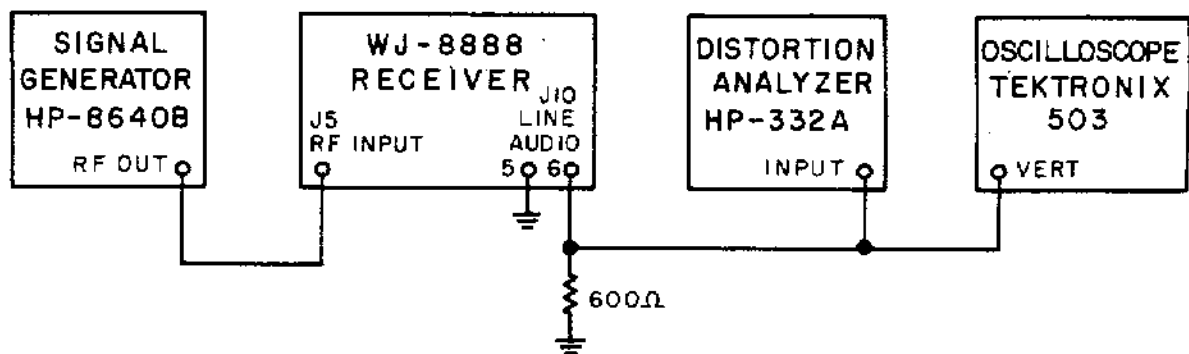

Figure 5-4. Test Setup, Sensitivity Tests
(1) Connect the equipment as shown in Figure 5-4.
(2) Place the receiver in the AM detection mode, the NORM AGC gain mode, and the narrowest available IF bandwidth position. If the narrowest available IF bandwidth position is less than 1.0 kHz, the receiver should be placed in the CW VAR detection mode.
(3) Set the HP-8640B signal generator for a 0.50000 MHz output at the level corresponding to the receiver IF bandwidth in use in Table 5-3. If the IF bandwidth is less than 1.0 kHz, the HP-8640B output should be unmodulated. Otherwise, the output should be modulated 50% at a 400 Hz rate.
(4) Tune the receiver to 0.50000 MHz. If the selected IF bandwidth position is less than 1.0 kHz, adjust the VAR BFO control for a line audio output near 400 Hz.
(5) With the analyzer in the SET LEVEL mode, adjust the distortion analyzer for a reading of 0 dB on the SET LEVEL range.
(1) Connect the equipment as shown in Figure 5-4, deleting the distortion analyzer.
(2) Place the receiver in the USB detection mode and the MAN gain mode. Rotate the RF GAIN control fully clockwise. Tune the receiver to 0.51000 MHz.
(3) Set the signal generator frequency to 0.51035 MHz. The signal generator RF output should be unmodulated at a level of -107 dBm.
(4) Adjust the oscilloscope controls so that the receiver audio output can be plainly seen. Adjust the oscilloscope vertical sensitivity so that the top of the waveform is at a convenient position on the graticule. Note this reference level.
(5) Tune the signal generator to 0.50965 MHz, and increase the output level of the signal generator until the top of the oscilloscope waveform again reaches the reference level noted in step (4). Note the new setting of the signal generator RF output attenuator.
(6) The new setting of the signal generator RF output attenuator should be at least 50 dB higher than the output level set in step (3).
(7) Repeat steps (2) through (6), placing the receiver in the LSB detection mode, using a signal generator frequency of 0.50965 MHz in step (3), and 0.51035 MHz in step (5).